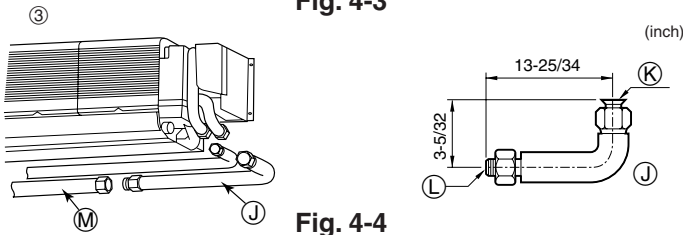

Fig. 4-4
- ③ L-shaped connection pipe (for gas piping) (Fig. 4-4)